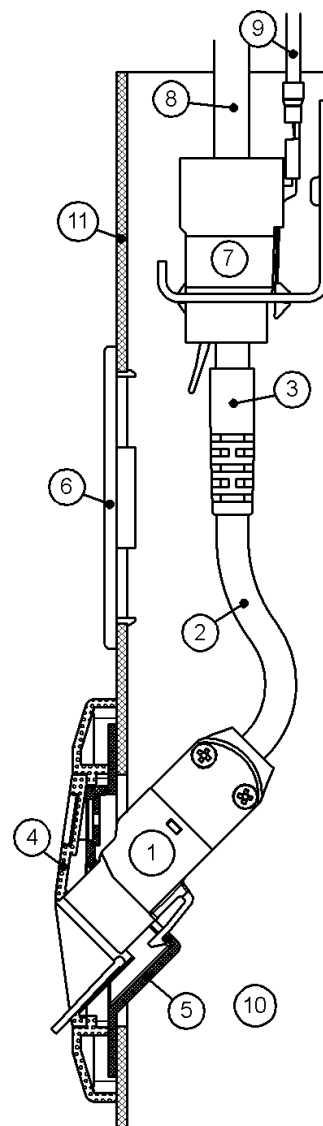
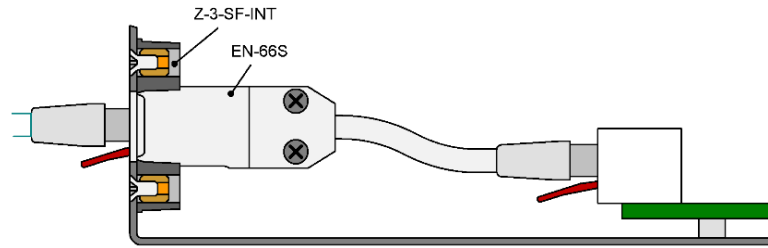
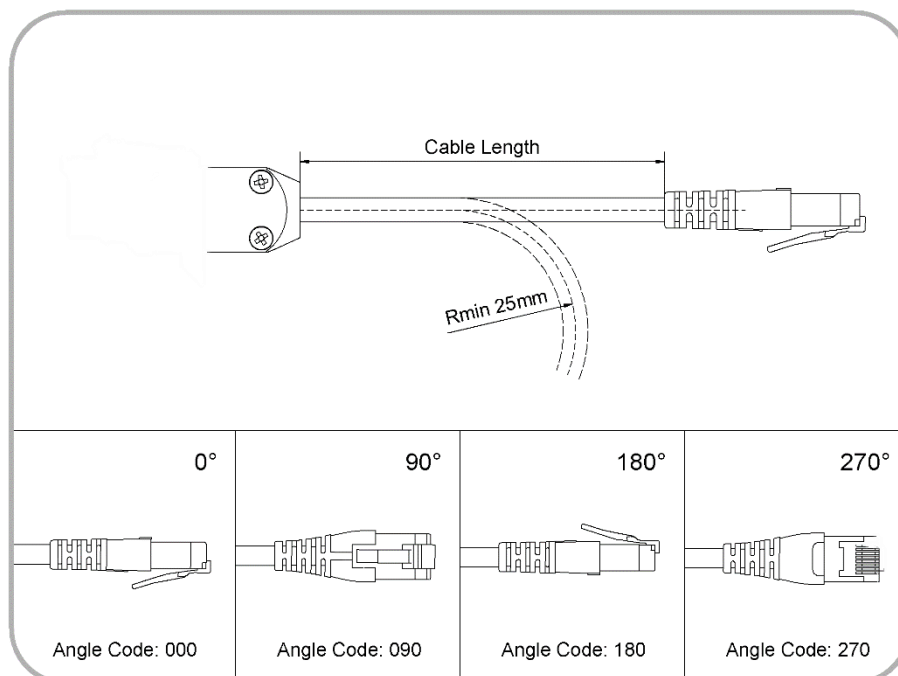
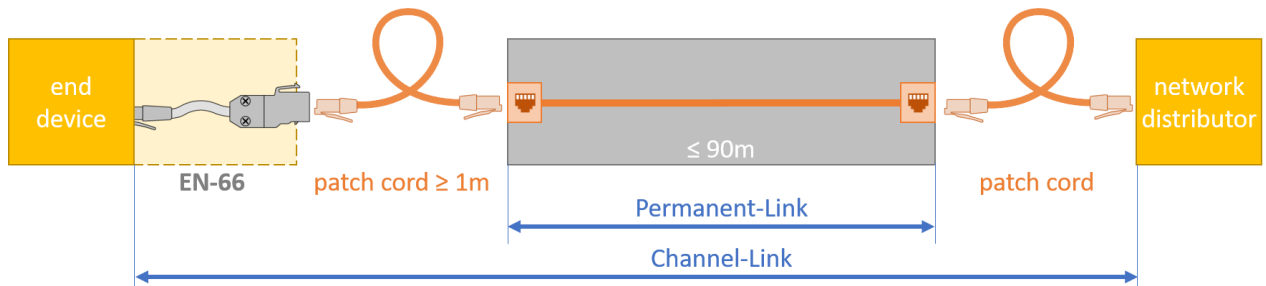

Figure 4 Keystone network isolator in a cable duct
Figure 5 Example configuration of the EN-66S installed in combination with the Snap-Fit accessory Z-3-SF-INT.
Figure 7. Cable length, as well as angle codes.
Figure 8 Recommended setup of the network isolator
Figure 4 shows a typical assembly within a cable duct ⑩, with cover ⑪. The Network Isolator EN-66K ① is shown installed in a Keystone-compatible wall outlet, which usually consists of a support frame ⑤ and a plastic front panel ④. The RJ45 plug ③ of the Network Isolator is to be inserted into a RJ45 jack module termination ⑦ at the end of the permanently installed data cable ⑧. When retrofitting the Network Isolator EN-66K ① into network channels, the existing RJ45 jack module from the wall outlet can be shifted back within the cable duct ⑩ and used as the connection to the Network Isolator.
The EN-66S Network Isolator is intended for incorporation into electronic devices, and it provides a Snap-Fit interface for this purpose. An example configuration is shown in Figure 5.
The transmission properties of permanent network installations fitted with EN-66 Network Isolators can be checked with cable certification devices which are suitable for testing electrically isolated cable sections. To be able to conduct such an inspection, the test equipment must be configured in an AC wire-map mode. The entire cable route, including the Network Isolator, can be tested to TIA/EIA-568 Cat 6A or ISO 11801 Class E_A as a Channel-Link. Testing of the cable shielding and the conductor resistance is not possible in this mode. If however, these tests are required, or if the quality of the cable route itself needs to be tested (without the Network Isolator), then testing can be performed by bypassing the Network Isolator, and connecting directly to the RJ45 socket ⑦, set back within the cable duct, as indicated in Figure 4.
The length of the flexible cable stub ② (see Figure 4) of the EN-66 Network Isolator is available in selected lengths from 30 mm to 10 m (inclusive). Refer to Figure 7, as well as the table in section 10.3. It is recommended that this length be kept to a minimum. When compared to a fixed installed cable, this flexible cable stub may be more susceptible to near end crosstalk (NEXT) and alien crosstalk (AXT). The flexible cable stub itself generates a small, but length-dependent amount of insertion loss (IL).
For flexible cable stub lengths between 30 mm and 500 mm (inclusive), the plug angle can be chosen, easing mechanical constraints in certain assembly configurations, and removing impermissible torsion strains from the cable assembly. Refer to Figure 7. The manufacturing tolerance for the plug angle is $\pm 20^\circ$.
When placing orders for EN-66, please specify the exact Order Code (OC). The order number is a hyphenated concatenation of the Article Number (A10068 for EN-66K, or A10069 for EN-66S), the Length Code for the desired cable length (see section 10.3 above), and the Angle Code for the desired plug angle (see Figure 7). For flexible cable stub lengths greater than 500 mm, the EN-66 will always be manufactured with a plug angle of 0° , and the Angle Code can be omitted for such orders.
Depending on the measurement parameter, the Ethernet performance of a network component is not only dependent on the hardware component itself, but also on the transmission link in which it is installed. For this reason, the network isolators are evaluated using a realistic transmission link, the so-called Channel-Link. In order to offer maximum protection for the end device, we recommend the structure of Figure 8.
The IL is fundamentally additive and the individual IL portions of all components of the system structure can be added up. Figure 5 and Figure 6 show the IL of the network isolator without the remaining Channel-Link components. Figure 7 and Figure 8 show the RL and the NEXT performance of the recommended structure on the end device side. The RL and the NEXT depend strongly on the structure of the system and do not behave additively with the rest of the structure.